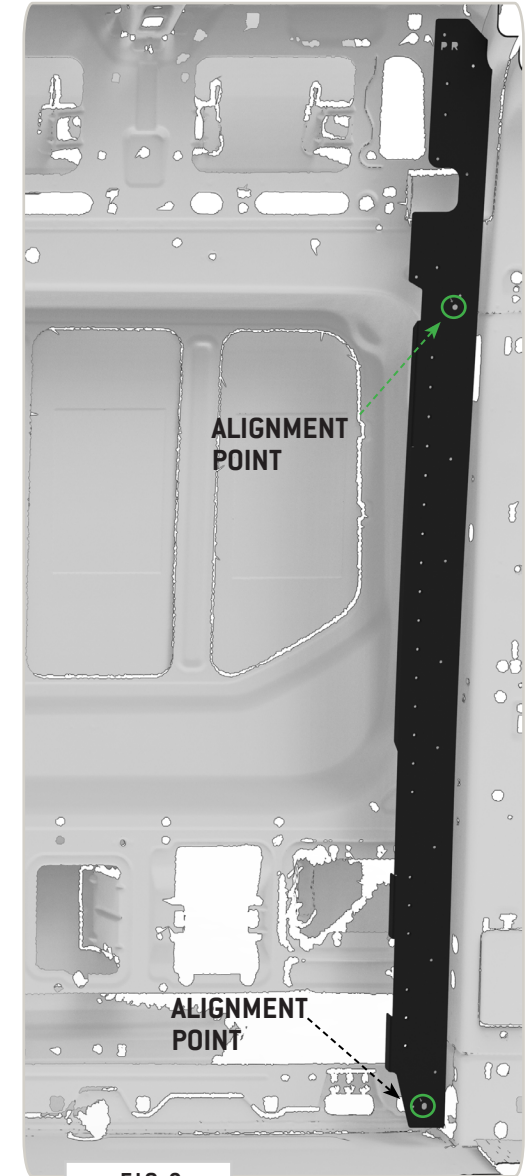

FIG 6
3.3 Align Driver Side Rear Bracket: Align the **Driver Side Rear Bracket** to the **Alignment Point** as shown in FIG 6.